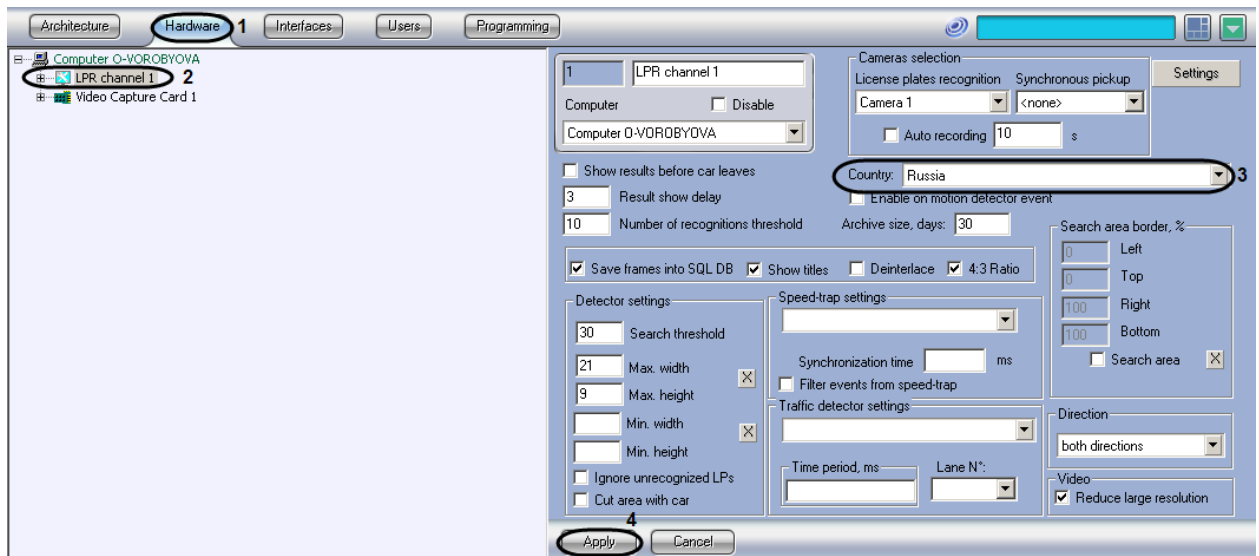

Fig. 7.2—15 Selecting the emitter-state
2. In the object tree on the left side of the Hardware tab, select the Uragan LPR Recognition object representing the Auto-Uragan 3.5.0.29 module. The settings panel of the selected object will open on the right side of the window (see section “Activation of program module, used for LP numbers’ identification” Fig. 7.2—15).